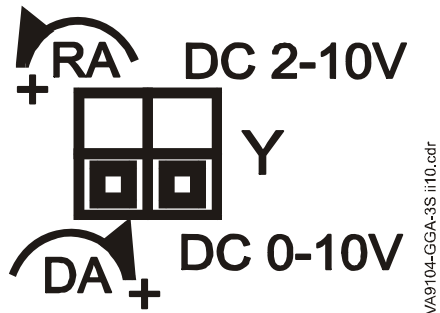

Figure 10: VA9104-GGA Factory Switch Setting
For Reverse Acting (RA) operation, a minimum control signal drives the actuator to the full CW position and a maximum signal drives the actuator to the full CCW position. To change the factory settings, remove the actuator cover and adjust the switches on the circuit board as shown in Figure 10.